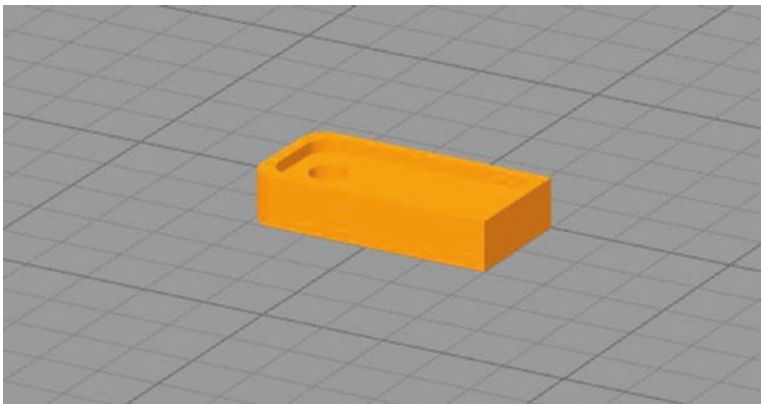

Figure 4-46. Orient the part in this position using the Ctrl-L quick key
- 7. You will notice that the tag will be put on its side; this is suboptimal since there is an overhang. To fix this, press Ctrl-L and select the bottom of the tag; this will put the bottom of the tag to the top of the build plate which is a much more efficient orientation for this part to be printed in. See Figure 4-46.